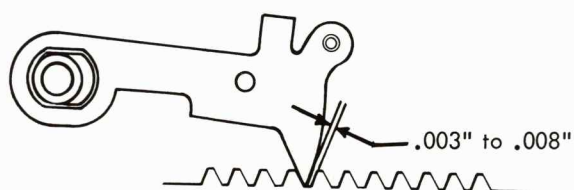
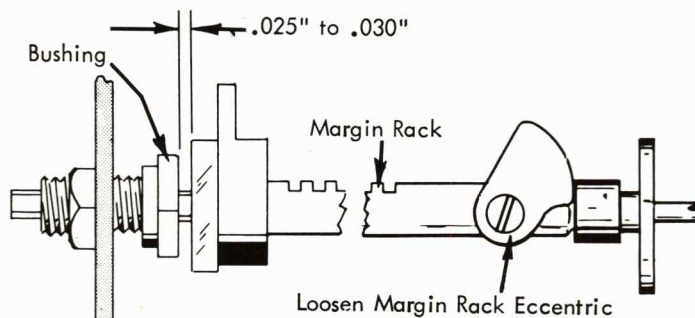

FIGURE 145. Escapement Pawl Check
FIGURE 146. Overbank Adjustment
6. **Overbank Adjustment** - With the carrier held fully to the left against the margin stop, a clearance of .003" to .008" should exist between the working surfaces of the escapement pawl and the escapement rack tooth (Fig. 145). Adjust the left-hand margin rack bushing to obtain this condition (Fig. 146).
The overbank adjustment insures that the escapement pawl will enter the correct escapement rack tooth when the carrier return clutch is unlatched at the left margin. The adjustment may be observed from the top with the platen and deflector removed and the left margin stop positioned toward the middle of the rack. The overbank may also be adjusted by adjusting the margin rack bushing to clear the nylon washer on the margin rack by .025" to .030" with the carrier resting at the left margin. The right hand margin rack eccentric should be loose when making this adjustment (Fig. 146) so that the left margin stop will be against the stop latch on the carrier. The .025" to .030" compensates for the .022" floating action in the escapement pawl. (The correct adjustment for the margin rack eccentric is covered under the Margin Control section.)